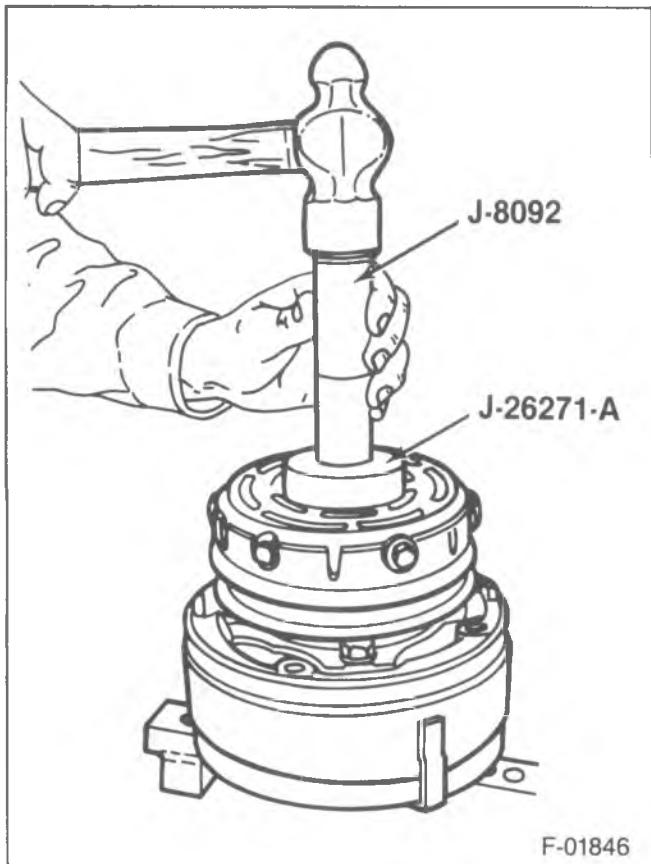

Figure 13—Installing the Rotor and Bearing Assembly — V-Groove Type
2. Rotor (6) and bearing (5) assembly to the compressor with J-8092 (figure 13).
3. Retainer ring (4) with J-6083.
4. Pulley rim mounting screws (10) and washers (9).